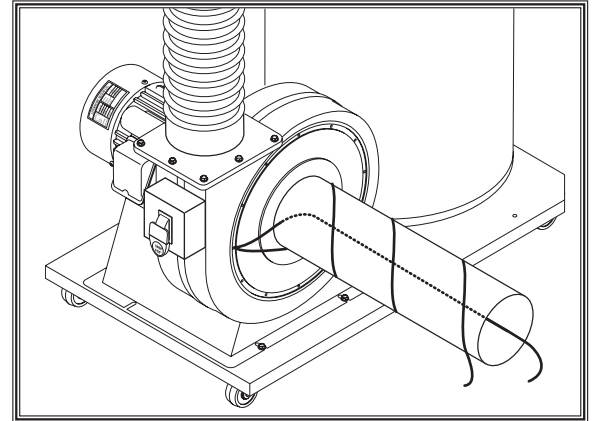
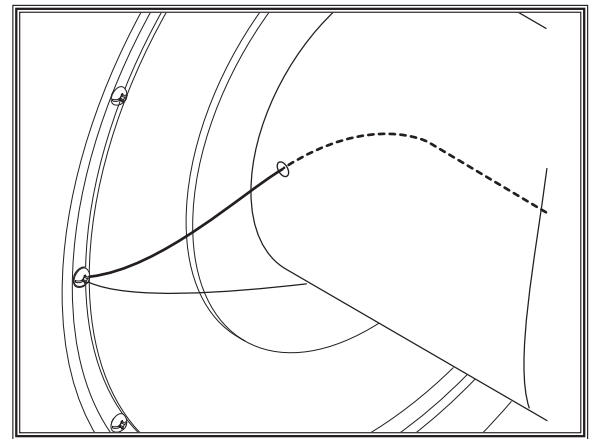

Figure 12. Typical dust collector with ground wire installed inside and around pipe.
Figure 13. Typical dust collector impeller housing with ground wires secured to the housing.
- **Second**, for plastic pipe or hose ducting systems, install an uncoated bare copper wire inside the entire length of all ducting. An additional wire must be spiral-wrapped on the outside of all the ducting (see **Figure 12**). Both wires must be connected to the dust collector impeller housing (see **Figure 13**) so all static electricity inside and out of the ducting is carried through the wires and dissipated through the dust collector ground.